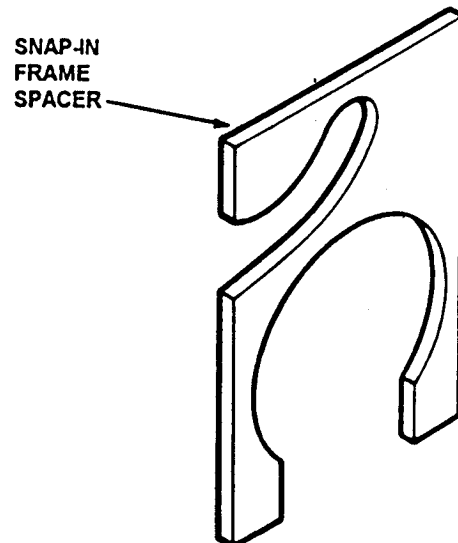

FIGURE 4.3
c. Install required number of snap-in frame spacers behind channel pivot until the 1-1/4" distance between belt is maintained. See Figure 4.3.